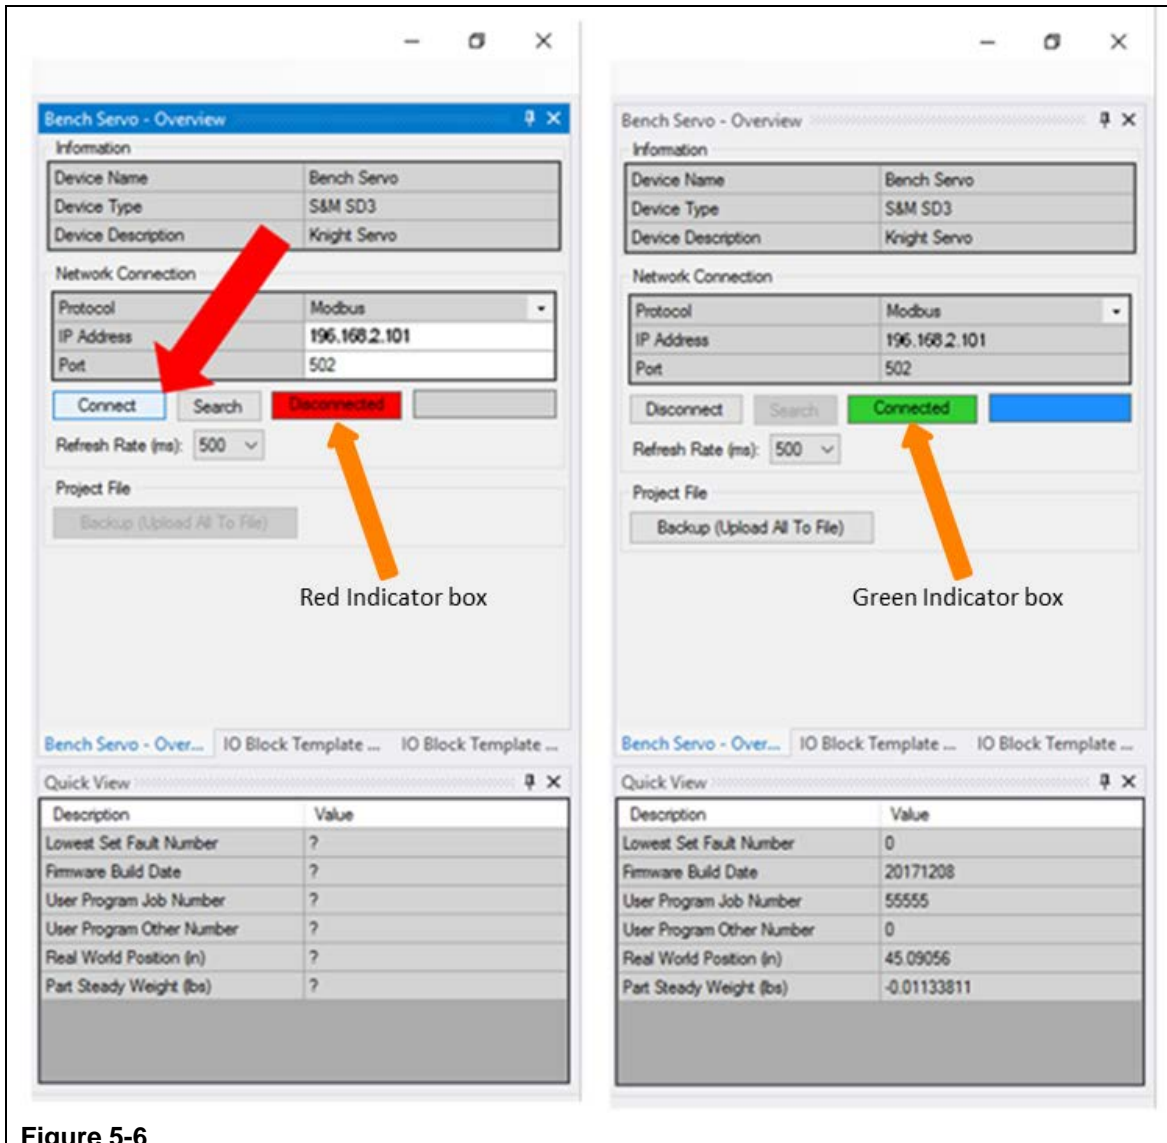

Figure 5-6
- Step 5. Move the mouse to the right side of the screen and select the 'Connect' button. If the communications are operating correctly the red 'Disconnected' box will turn to a green 'Connected' box. (Refer to Figure 5-6)